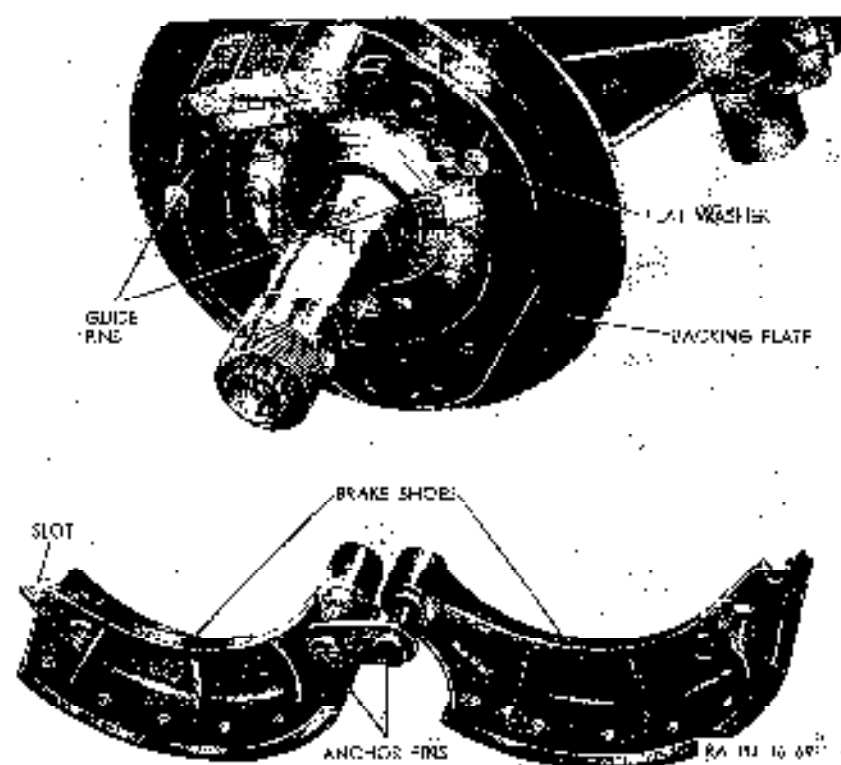

Figure 246. Brake shoe and anchor pins removed from backing plate.
- (5) Remove "C" washer securing front brake shoe to guide pin (fig. 246) attached to backing plate assembly, using pliers. Repeat this operation at rear shoe.
- (6) Remove anchor pin locknuts (fig. 246) at back side of backing plate assembly, and pull brake shoes (fig. 246) and anchor pins from front side of backing plate.
- (7) Pull anchor pins from holes at lower end of brake shoes.
- (1) Install anchor pins (fig. 246) with anchor pin plate in hole at lower end of brake shoes. Turn anchor pins so that punch marks, which indicate high side of anchor pin cones, are toward each other.
- (2) Making sure that flat washers (fig. 246) are in place on both guide pins, position brake shoes on guide pins with anchor pins inserted in holes at bottom of backing plate. Make sure that wheel cylinder push rods engage slots in upper ends of brake shoes, and install "C" washers on guide pins.